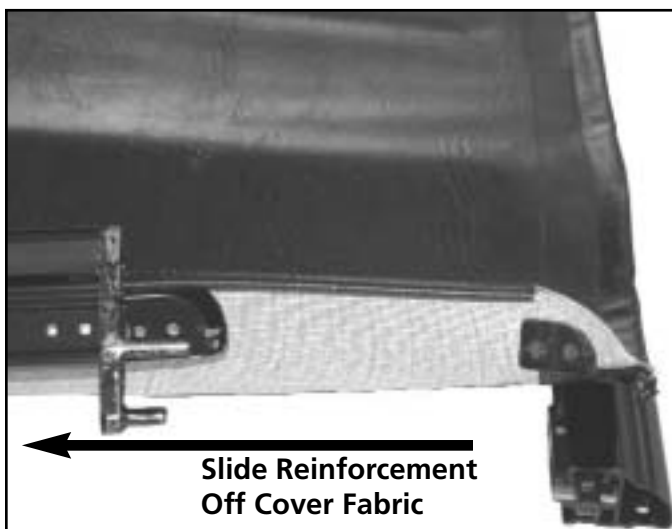

Figure S-82
10. Slide front and rear reinforcements off of the cover fabric. See figure S-82.